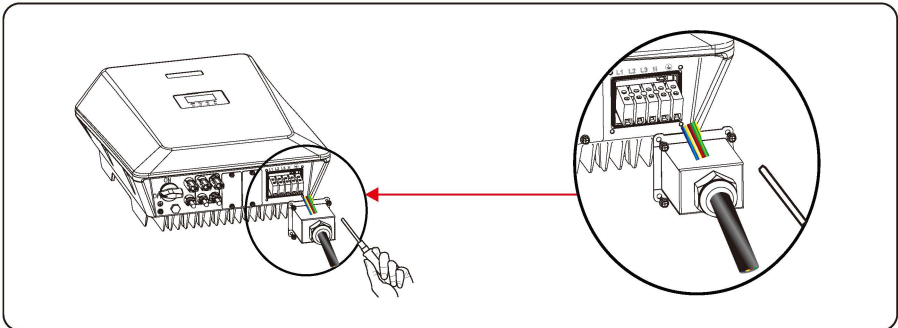

Figure 5.8 Tightening AC wiring cover
Step 5 Aligning with the hole position on the AC terminal cover, use a torque wrench to tighten the locking cap to a torque of 1.2 N·m, as shown in Figure 5.8.
Step 6 Use a torque wrench to tighten the locking cap on the AC cable to a torque of 5 N·m, as shown in Figure 5.8.